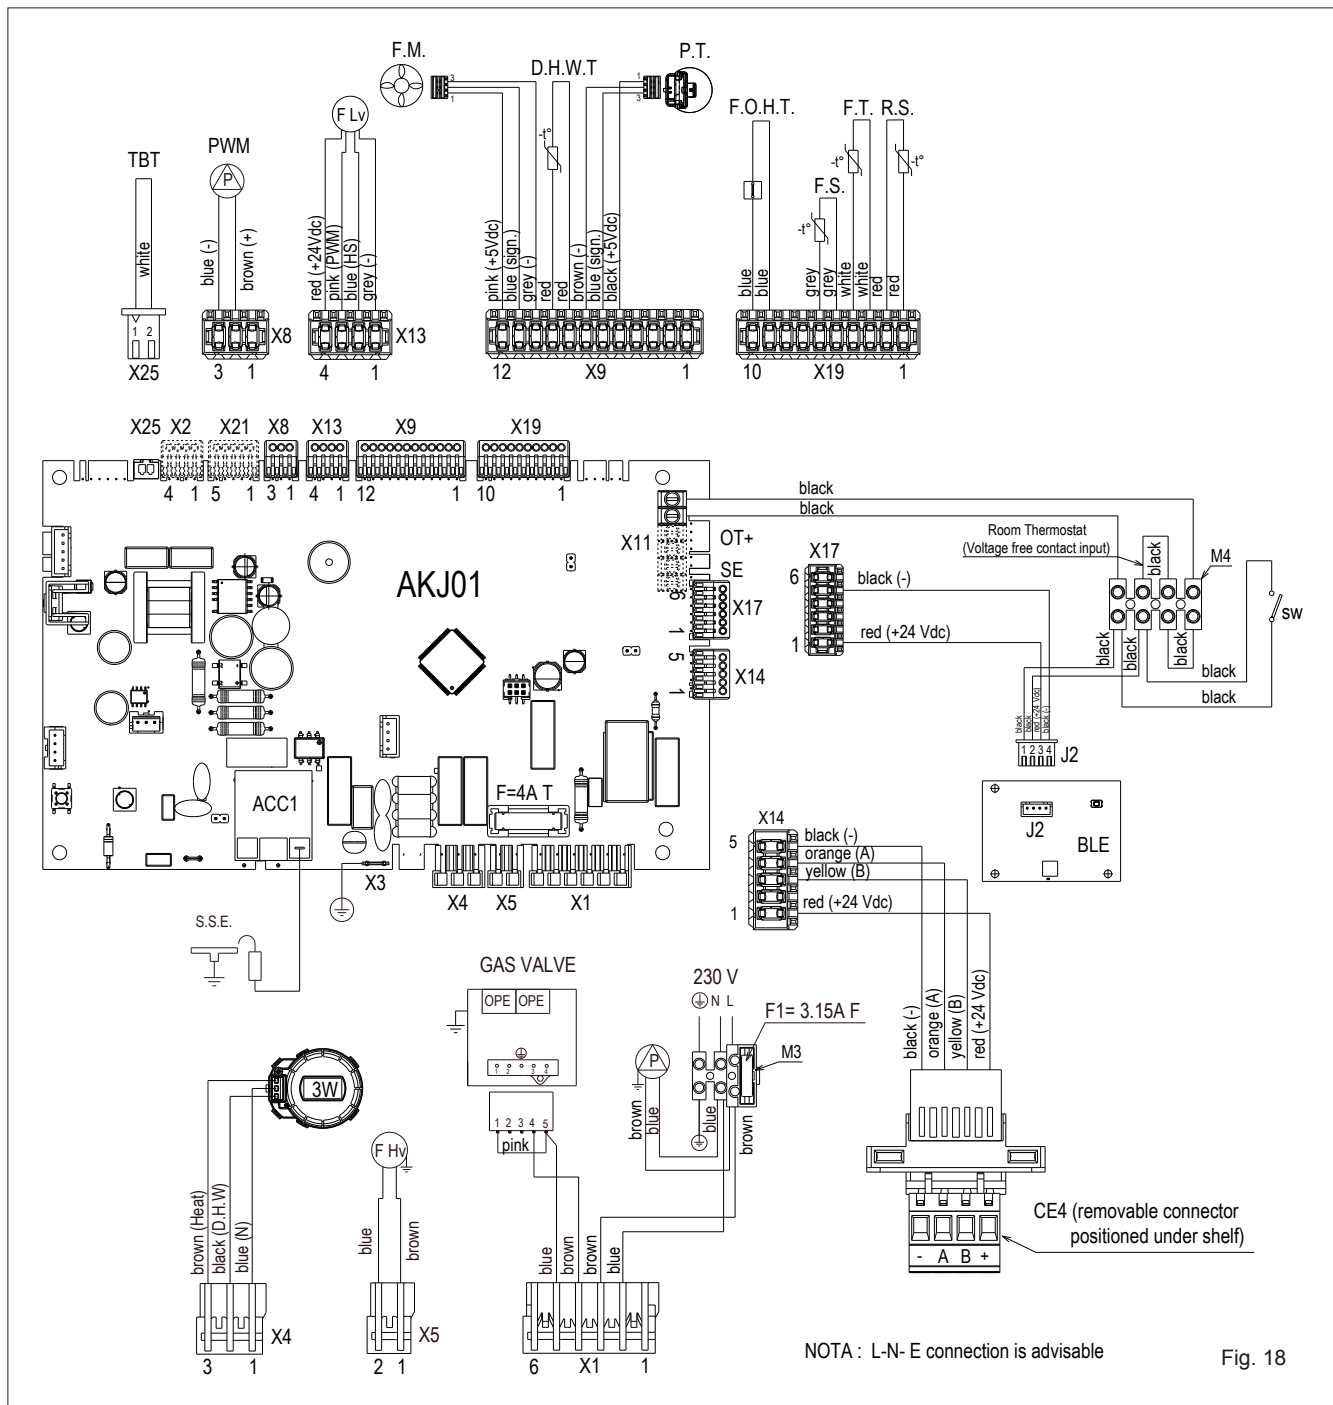

Fig. 18
- Modbus 485 (Smart-Key): remove the plug from socket CE4 located on the appliance underside (fig. 18) and insert the Smart-Key into the socket and follow the instructions provided with the Smart-Key.